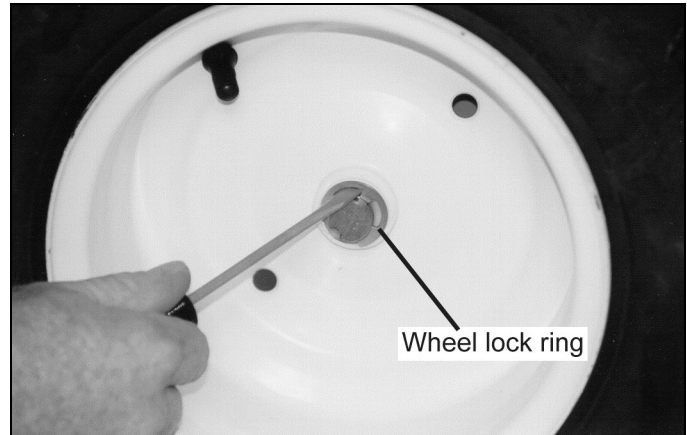

Figure 16
2. Rotate the tire so the key slot is upward, then pop off the wheel lock ring with the screwdriver (*Figure 16*) and save it. Remove the washer and slide the wheel off.